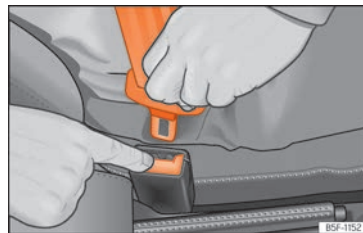

Fig. 10 Release the seat belt's buckle.
- Press the red button on the buckle » » » Fig. 10. The latch plate is released from the buckle.